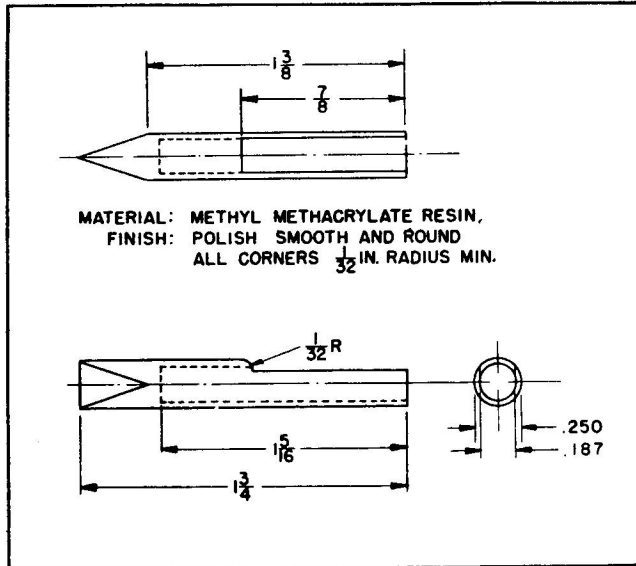

Figure 2-5 Plastic Brush-spreading Tool
(3) **Insert the plastic brush-spreading tool** (See figure 2-5) between the brushes of the brush block assembly with the opening in the side of the tool rotated 90 degrees from the brush block. (See figure 4-7). Check that the lower end of the tool rests against the thrust locknut on the frame cap assembly.